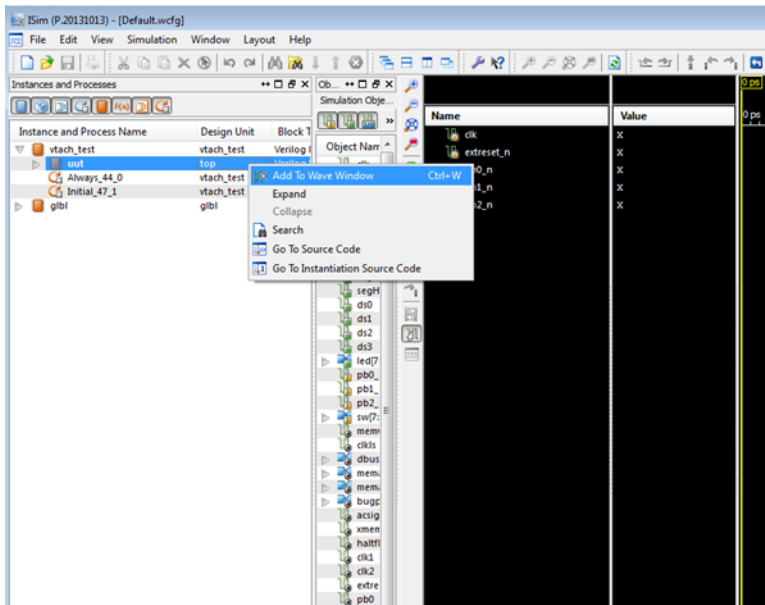

Figure 5-25 *Add uut waves*
2. In the Instances and Processes window on the left, right-click *uut* and select "Add to Wave Window" (see Figure 5-25).